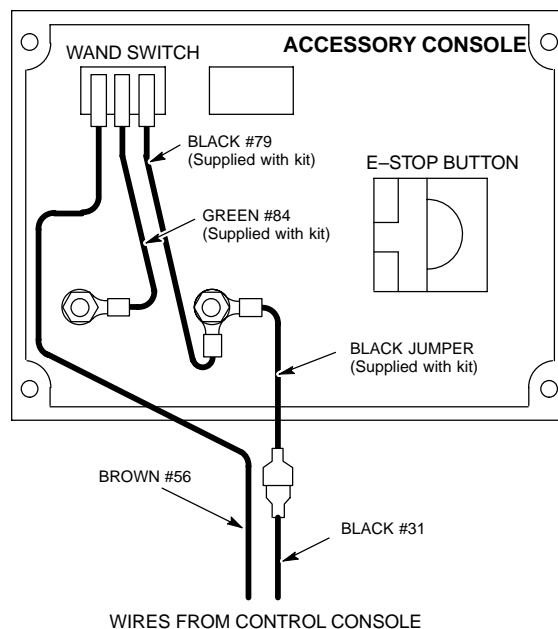

Fig. 6
10. Connect wires to accessory console as illustrated (Fig. 6). Wire assemblies #79 black, #84 green and black jumper are supplied with kit.